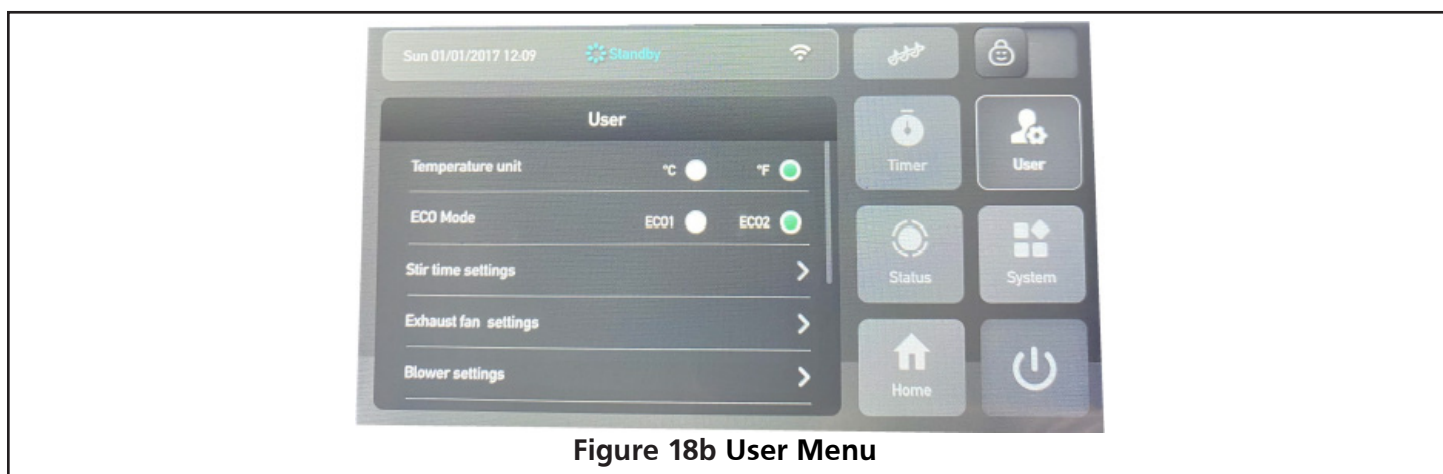

Figure 18b User Menu
- Press to enter User Settings Menu (Figure 18b).